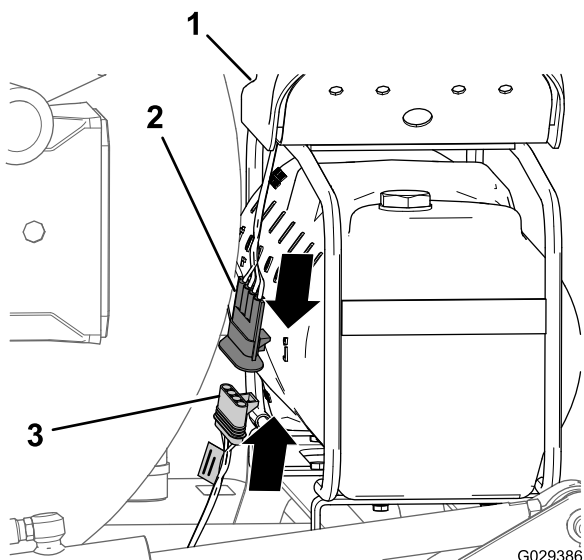

Figure 17
- At the end of the 236 cm (93 inch) branch of the wiring harness, align the 4-socket connector of the wiring harness for the finishing kit with the 4-pin connector of the wiring harness from the compressor (Figure 17).
- Insert the 4-pin connector into the 4-socket connector (Figure 17).